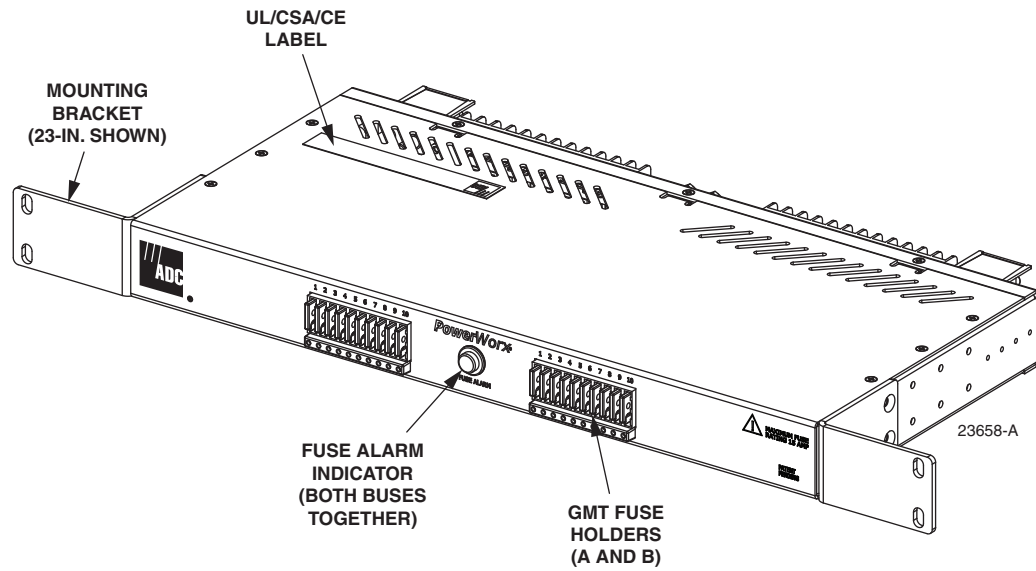
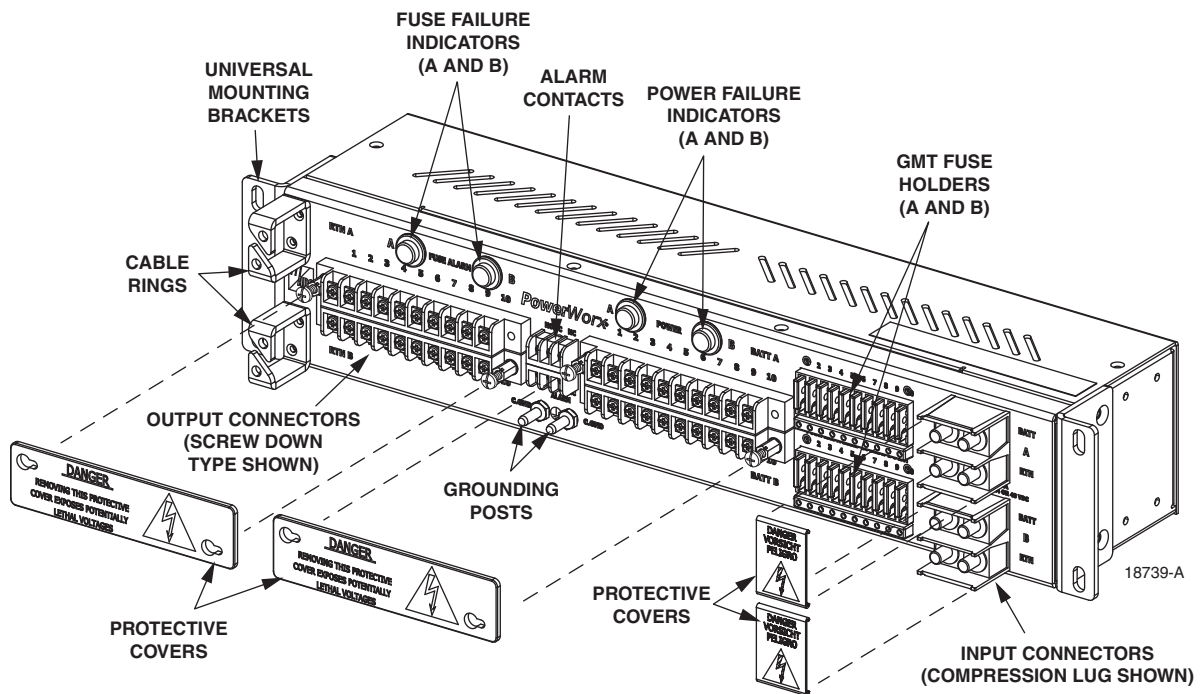

Figure 3. Dual Bus GMT Panel
Figure 5. Total Front Access Panel
- Various LED configurations from a single LED for both buses (as shown in Figure 3) to one power on LED and one fuse failure LED for each bus (as shown in Figure 5).
Figure 3 shows a front view of a dual bus GMT panel. Each bus provides ten fuse positions and ten outputs. This panel has a single fuse alarm indicator.
Figure 5 shows a front view of the total front access panel. This panel also has dual 10-position power buses, compression lug power inputs, screw-down alarm terminations, two post grounding contacts, and protective covers. It has screw-down power output terminations.